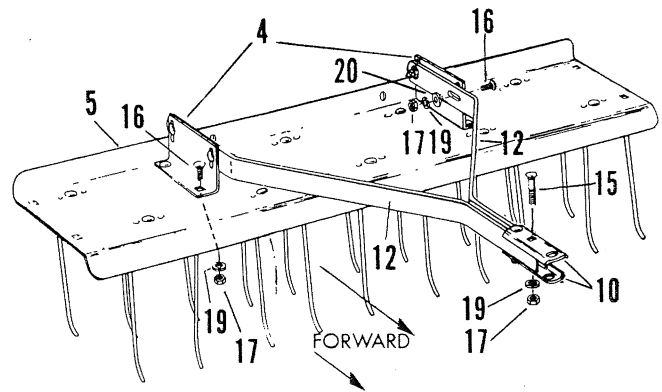

Fig. 2
NOTE: Leave the **SECOND** Carriage Bolt from **RIGHT SIDE**, near rear of Tine Tray, loose for assembly of Mount Bracket in Fig.2.
FIG. 2. Attach each of the two tray mount brackets (4) to the tine tray (5), with the small flange resting on the tray surface and facing a tray end as shown. Use two 5/16" x 1" carriage bolts (16- see note in Fig. 1 instructions), 5/16" lock washers (19, and 5/16" hex nuts (17) per mount bracket. Securely tighten!